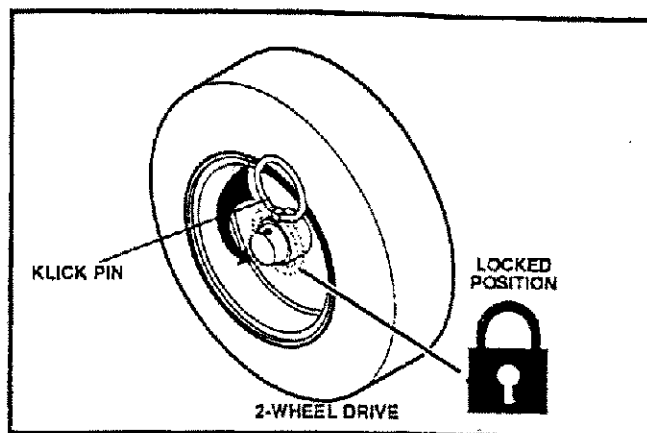

FIG. 5-OP
- The left hand wheel is secured to the axle with a click pin (See FIG. 5-OP). This unit was shipped with this click pin in the locked (through wheel hole) position.